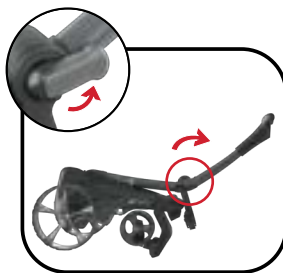

Fig 2
2. Unfold the handle and re-secure the latch (fig. 2)